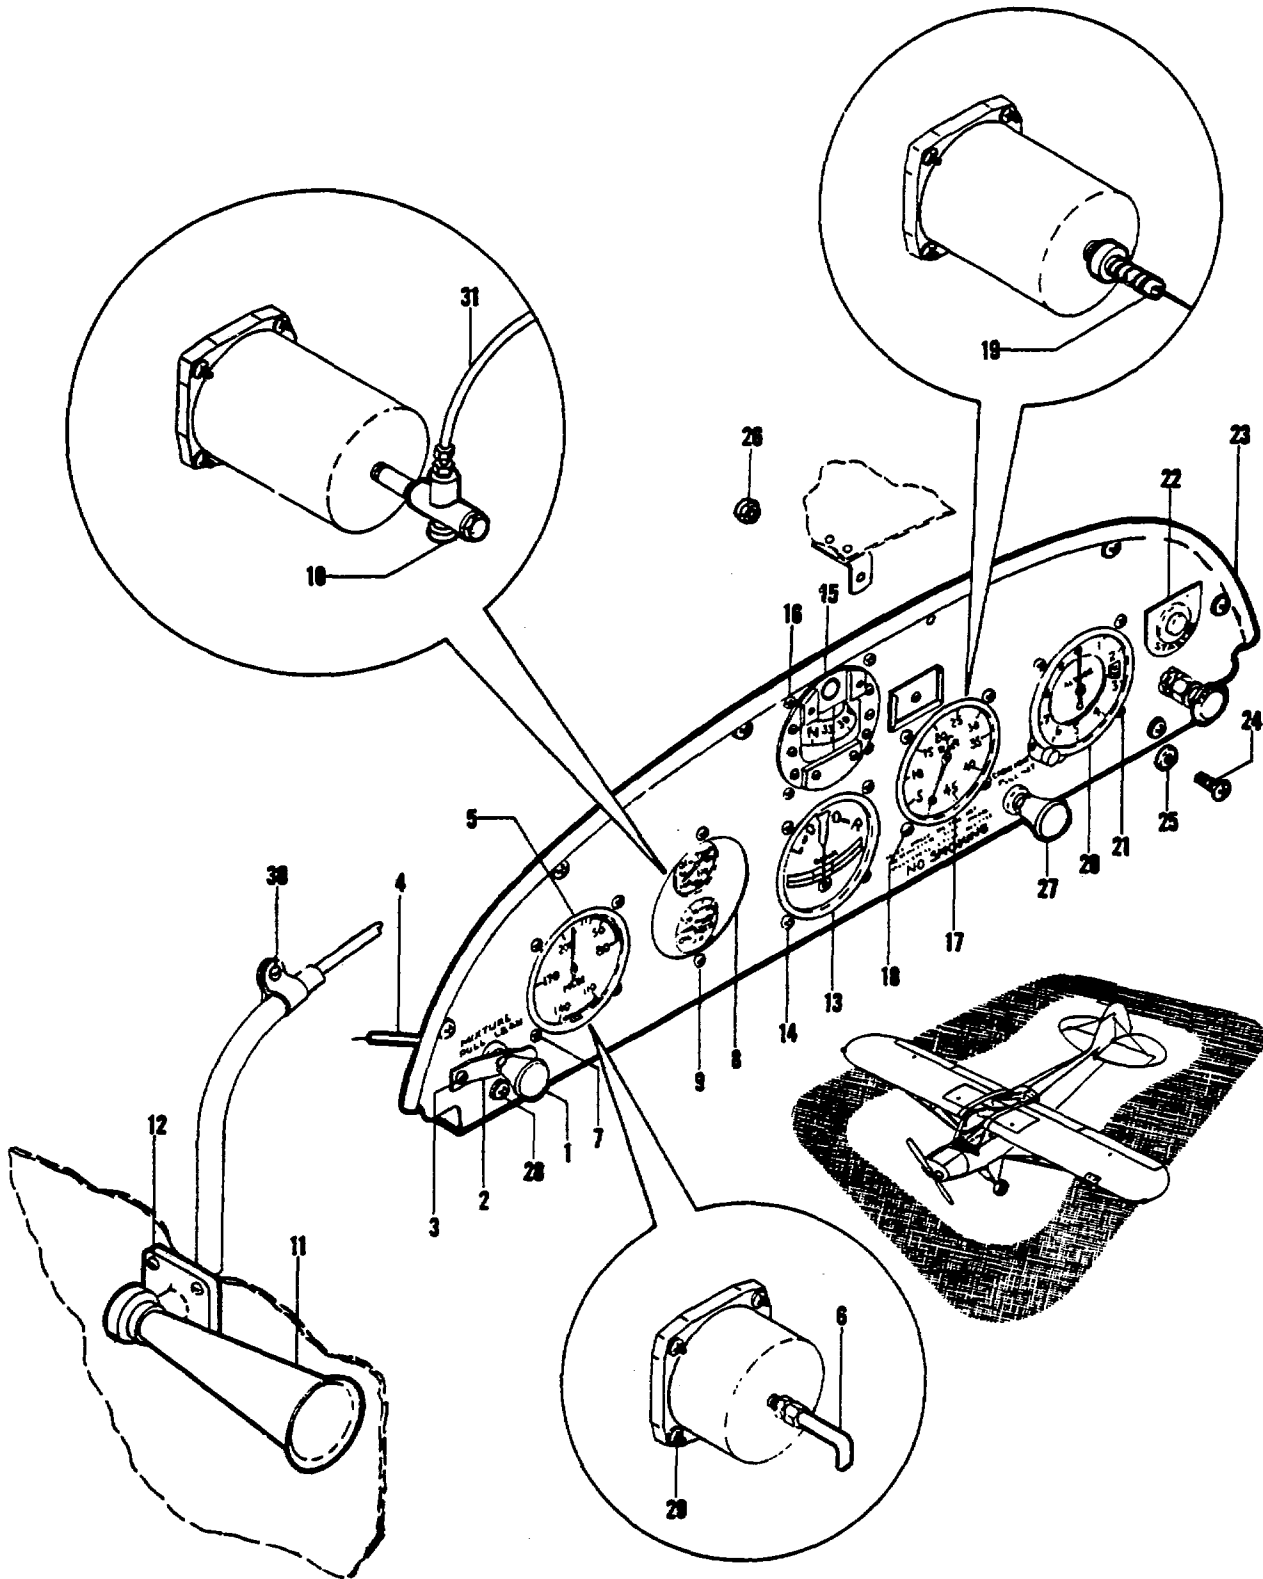
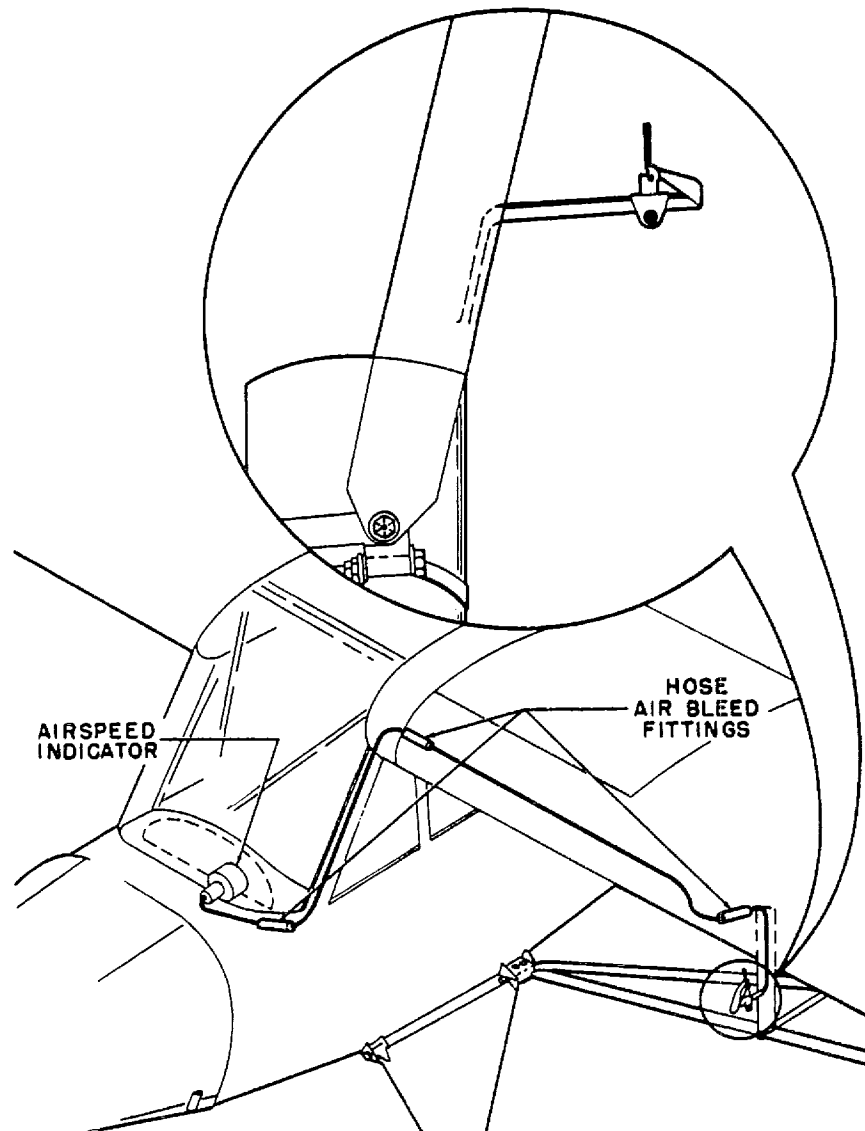

Figure 6-1. Instrument Panel Installation
Figure 6-2. Pitot Static System (Wing Panel to Instrument Panel)
6-2. DESCRIPTION. (See figure 6-1.) The aluminum alloy instrument panel mounted on the front of the cockpit contains seven instruments: air-speed indicator, compass, tachometer, altimeter, turn and bank indicator, and combination oil pressure and oil temperature gage.
6-3. SERVICING THE INSTRUMENT PANEL. (See figure 6-1.) The instrument panel (23, figure 6-1) may
Foreign material in air-speed indicator hose	Disconnect air-speed indicator hose (6, figure 6-1) from instrument panel and pitot head (figure 6-2). Clean all lines with compressed air and reinstall.
Leak in air-speed indicator hose	Check all hose (figure 6-2) and connections for leakage and replace damaged parts.
Instrument mounting is loose	Tighten the four screws holding air-speed indicator to the instrument panel. (See figure 6-1.)
6-5. **SERVICING THE AIR-SPEED INDICATOR.** (See figure 6-1 and 6-2.) The air-speed indicator is model USAF TYPE B-8.
a. Examine the air-speed indicator (5, figure 6-1) for obvious minor damage such as cracks, loose dial glass, damaged or corroded tubing, and for loose connections. Replace defective parts.
b. In order to remove the air-speed indicator, proceed as follows: Remove the four attaching screws and nuts (29) that hold the instrument to the instrument panel (23). Lift the air-speed indicator out of the instrument panel. Disconnect the air-speed indicator hose (6) on the back of the instrument.
6-6. **SERVICING THE COMPASS.** (See figure 6-1.) The compass is model USAF TYPE B-16.
a. Examine the compass (15, figure 6-1) for any discoloration of the liquid, leakage, or air bubbles. Replace the entire unit if found defective in any way.
b. In order to remove the compass, proceed as follows: Remove the four assemblies of screws, nuts, and washers (16) that secure compass to instrument panel (23).
6-7. **SERVICING THE TACHOMETER.** (See figure 6-1.) The tachometer is model USAF TYPE C-11.
a. Inspect the tachometer (17, figure 6-1) for obvious damage such as cracks, loose dial glass, insecure mounting, or a damaged tachometer shaft. Replace tachometer if found to be defective in any way.
b. In order to remove the tachometer, proceed as follows: Remove four sets of screws and nuts (18) that secure tachometer to the instrument panel (23). Lift the tachometer out of the instrument panel. Disengage the tachometer shaft (19) from the tachometer body.
Insecure mountage	Secure mounting screws (14, figure 6-1).
6-9. **SERVICING THE ALTIMETER.** (See figure 6-1.) The altimeter is model USAF TYPE C-13.
a. Inspect the altimeter (20, figure 6-1) for obvious damage and for security of mounting.
b. In order to remove the altimeter, proceed as follows: Remove the four attaching screws and nuts (21)
Legend for Figure 6-1.
Obstructions in venturi or tubing to the instrument	Disconnect tubing and clean with compressed air. Clean venturi throat and opening (11, figure 6-1).
6-11. SERVICING THE TURN AND BANK INDICATOR. (See figure 6-1.) The turn and bank indicator is model USAF TYPE 1719.
- a. Examine the turn and bank indicator (13, figure 6-1) for obvious damage and for security in its mounting. Replace this instrument if any defects are found.
- b. In order to remove the turn and bank indicator, proceed as follows: Remove the four sets of screws and nuts (14) that secure the turn and bank indicator to the instrument panel (23). Disassemble screw and
Dirty or damaged suction regulating valve	Replace suction regulating valve (10, figure 6-1).
**6-13. SERVICING THE OIL PRESSURE AND OIL TEMPERATURE GAGE.** (See figure 6-1.) The oil pressure and oil temperature gage is model U. S. GAGE NO. BK-3-1/2-U-274.
a. Inspect the combination oil pressure and oil temperature gage (8, figure 6-1) for loose dial glass, insecure mounting, and damaged or deteriorated oil pressure line. Replace any defective parts with new units.
b. In order to remove the combination oil pressure and oil temperature gage, proceed as follows: Remove the two sets of screws, bushings, and nuts (9) which hold the gage to the instrument panel (23). Disassemble oil pressure line (31) and remove suction regulating valve (10). Lift the gage out of the instrument panel.
**6-15. DESCRIPTION.** (See figure 6-2.) The pitot static
system serves the air speed indicator (5, figure 6-2). The dynamic pressure pitot head is located on the left front jury strut. The dynamic pressure line runs from the jury strut up into the left wing panel to the wing root and down along the left windshield post to the air speed indicator fitting (figure 6-2). There are no static pressure lines in this system. Since the cabin is not pressurized, the static pressure is obtained directly at the air speed indicator casing through a fitting equipped with an air filter. The pressure differential developed between the dynamic-pressure pitot head and the air speed indicator static-pressure fitting when the airplane is in motion operates a pressure sensitive mechanism reading indicated air speed.
**6-16. SERVICING THE PITOT STATIC SYSTEM.** (See figure 6-2.) Examine all hose and connections for leakage, deterioration, obstructions or damage. Replace damaged parts with new ones. To remove obstructions, disconnect hose from the pitot head and from the air-speed indicator and clear with compressed air. Clean the pitot head in a similar manner.